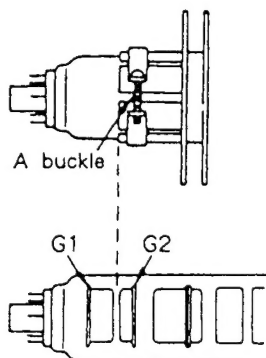

Fig. 3-1
1. Position neck ass'y as shown in Fig. 3-1